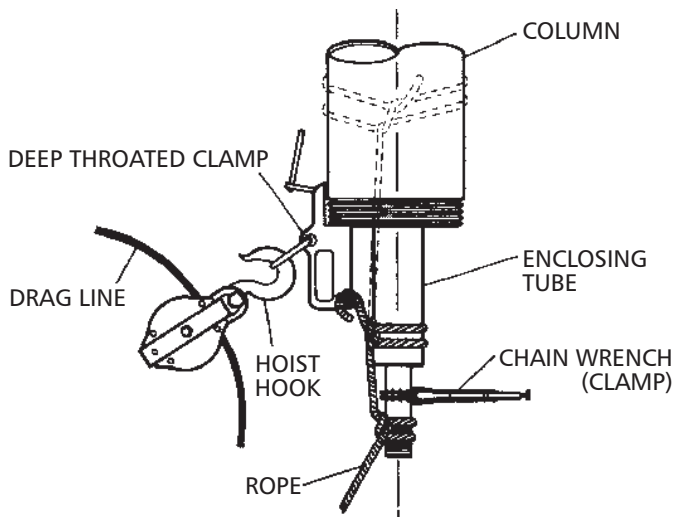

Figure 6
1. Insert tube (654) and shaft (646) sections into column section.
2. Place an elevator clamp near top of column just below and butt firmly against column pipe coupling (645). For flanged columns, place the elevator clamp just below the flange.
3. Attach a sling to hoist hook. Attach bottom of shaft (646) to column (644), by tying a tail rope to deep-throated clamp attached to bottom of column. (See Figure 6). Tie a clove hitch or double half hitch around the enclosing tube and then around the shaft in threaded area. Figure 6 also shows the alternate method (dotted lines).